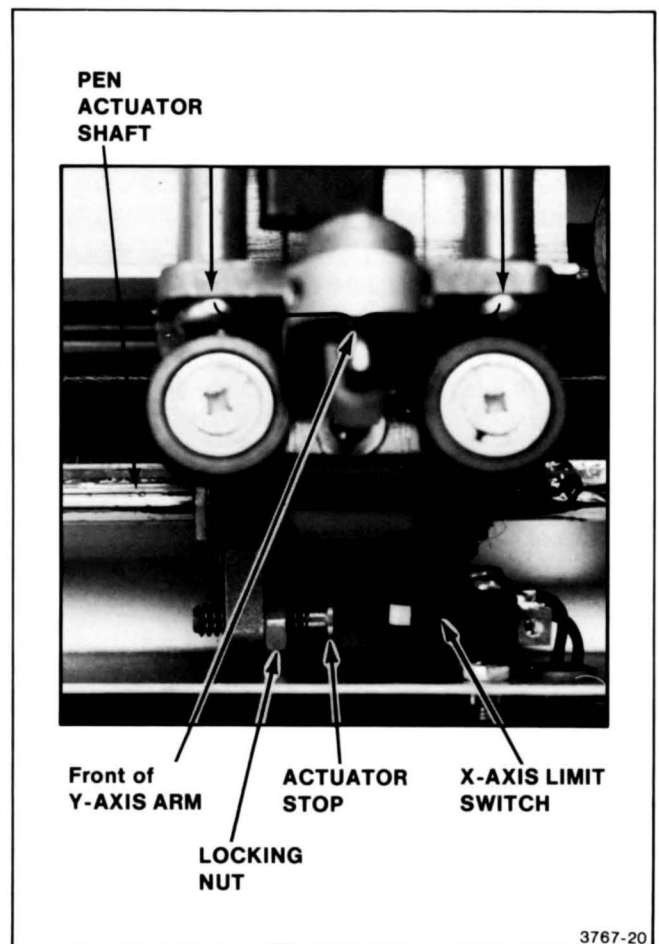

Figure 2-14. Actuator Stop Detail.
- c. Move the Y-axis arm to the right so that the actuator stop (see Figure 2-14) on the front of the Y-axis arm is visible through a cutout in the debris tray (there are three connector plugs located here).
- d. Loosen the locking nut on the actuator stop (see Figure 2-14).